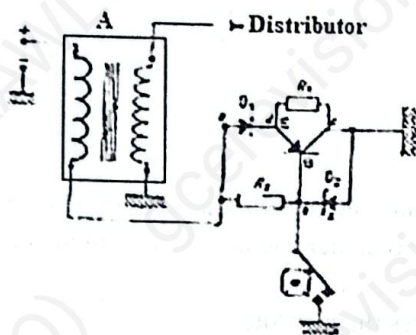

Figure 4
The ignition system has greatly evolved. Figure 4 and 5 below shows two types.
- Give the name and function of the part referenced A in figure 4 above. (1 mark)
- Identify the types of ignition systems shown in figure 4 and 5 above. (2 marks)